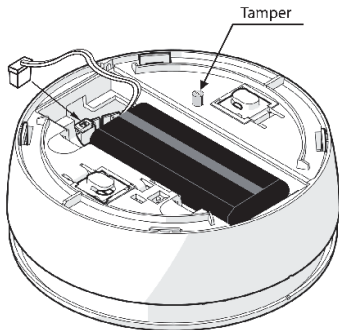

Figure 4
- Open the battery compartment cover and connect the battery cable to the battery connector (see Figure 4).